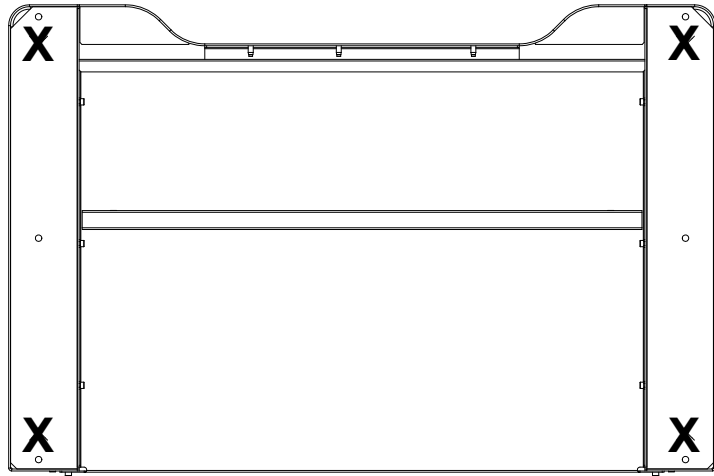

Figure 19. Underside of frame showing location of frame feet
6. Locate any frame feet that may have been removed in order to bolt the frame to the skid and reinstall them in the locations shown in Figure 19 on page 69.